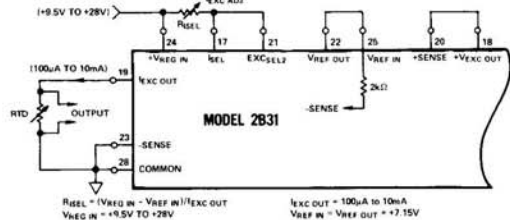

Figure 3. Constant Current Excitation Connections (VCOMPL = 0 to +5V)
**Current Excitation Programming:** The constant current excitation output can be adjusted between 100μA to 10mA by two methods with the 2B31. Figure 3 shows circuit configuration for a current output with the maximum voltage developed across the sensor (compliance voltage) constrained to +5V. The value of programming resistor RSEL may be calculated from the relationship: RSEL = (VREG IN − VREF IN)/IEXC OUT. This application requires a stable power supply because any variation of the input supply voltage will result in a change in the excitation current output.